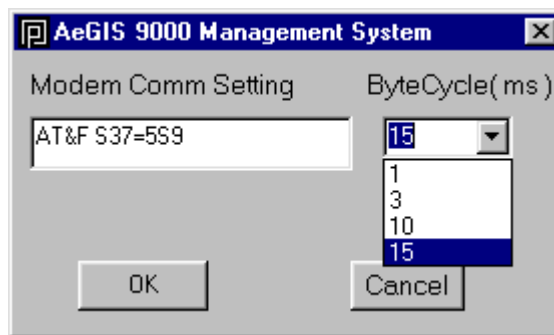

Figure 4.5 Modem String Setting
Step 7 You will see figure 4.5. Type one of the modem dialing strings below:
Step 8 Select the Byte Cycle by clicking the "Pull Down" menu button as shown in figure 4.5. **The Byte Cycle** is the number of bytes the modem sends the data per milliseconds (ms). You may select the maximum (15 ms). Click on "OK"